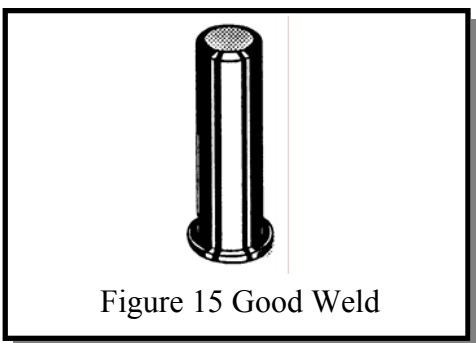

Figure 15 Good Weld
16.0 ASSEMBLY CD-512 CONTROLLER (see Figure 15,16, & 17)